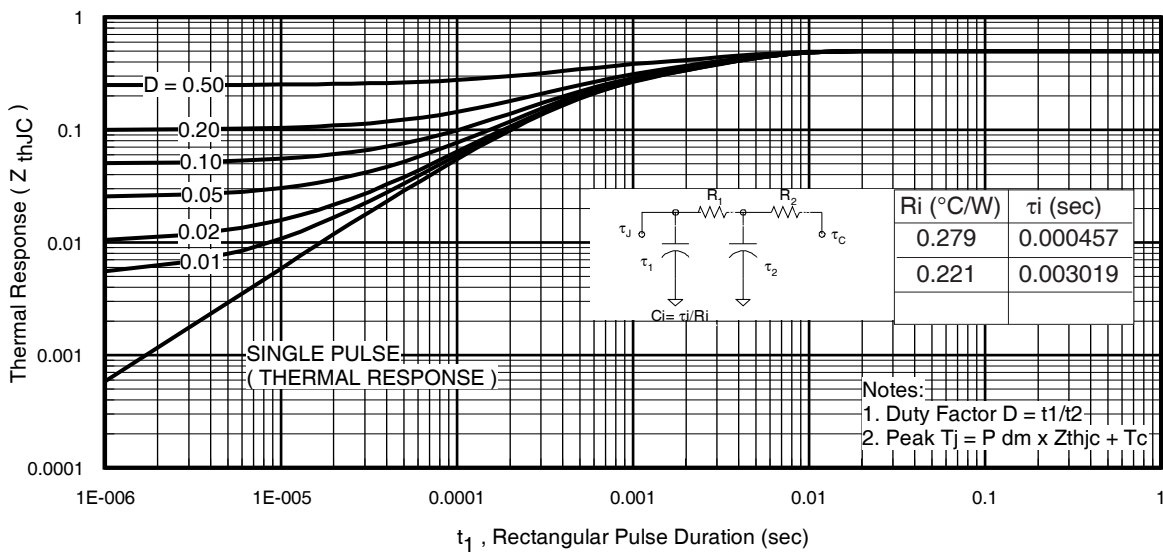
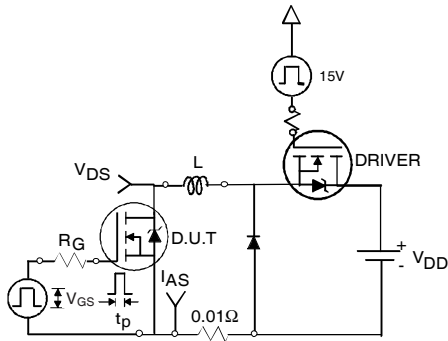

Fig 11. Maximum Effective Transient Thermal Impedance, Junction-to-Case
Fig 12a. Unclamped Inductive Test Circuit
- ① Repetitive rating; pulse width limited by max. junction temperature. (See fig. 11).
- ② Limited by T_{Jmax} , starting $T_J = 25^\circ\text{C}$, $L = 0.095\text{mH}$, $R_G = 25\Omega$, $I_{AS} = 75A$, $V_{GS} = 10V$. Part not recommended for use above this value.
- ③ $I_{SD} \leq 75A$, $di/dt \leq 340A/\mu s$, $V_{DD} \leq V_{(BR)DSS}$, $T_J \leq 175^\circ\text{C}$.
- ④ Pulse width $\leq 1.0\text{ms}$; duty cycle $\leq 2\%$.
- ⑤ $C_{oss \text{ eff.}}$ is a fixed capacitance that gives the same charging time as C_{oss} while V_{DS} is rising from 0 to 80% V_{DSS} .
- ⑥ Limited by T_{Jmax} , see Fig.12a, 12b, 15, 16 for typical repetitive avalanche performance.
- ⑦ This value determined from sample failure population. 100% tested to this value in production.
- ⑧ This is applied to D²Pak, when mounted on 1" square PCB (FR-4 or G-10 Material). For recommended footprint and soldering techniques refer to application note #AN-994.
- ⑨ R_G is measured at T_J of approximately 90°C .
- ⑩ TO-220 device will have an R_{th} of 0.45°C/W .
3. Equation below based on circuit and waveforms shown in Figures 12a, 12b.
$Z_{thJC}(D, t_{av})$ = Transient thermal resistance, see figure 11)